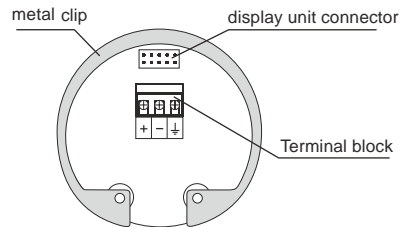

Fig. 17: Inside view of screw terminals of the level meter with current output CPC-U-70 \_ \_ \_ I
5. Connect the cable to the screw terminals according to the diagram in Fig. 17 or 18. Firmly tighten the terminals and the cable outlet.
In the event of strong ambient electromagnetic interference, paralleling of conductors with power distribution, or for distribution to distances over 30 m, we recommend grounding the level meter (see above) and using a shielded cable. Ground the shielding of the cable on the side of the power supply, or the shielding is possible to connect only on inside pin of the level meter marked see fig. 17 and 19 (the shielding of the cable is always connected in a single location).